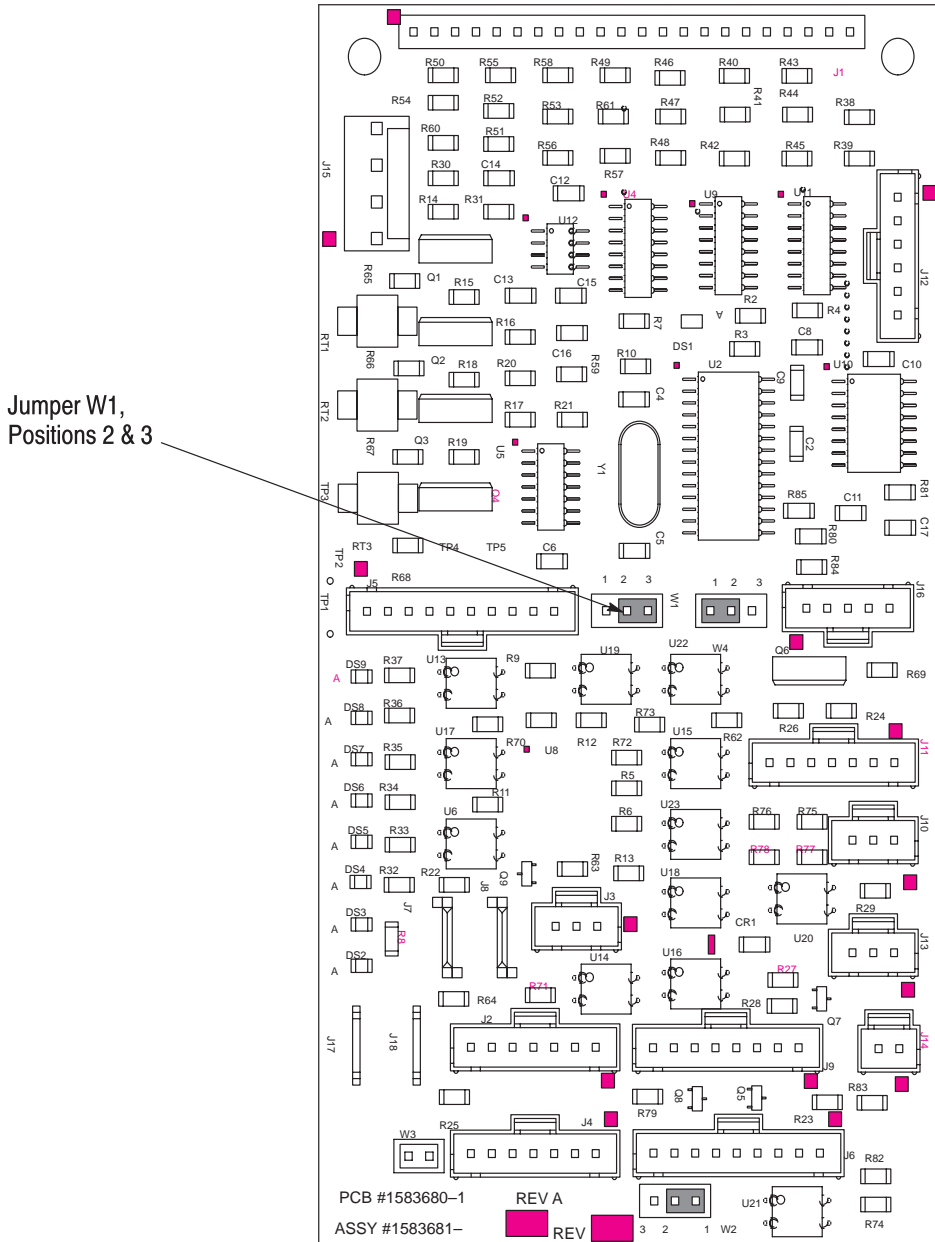

Figure 5
*NOTE THAT the jumper (W1 on Figure 5) connector on the stripping module control board must be in Position 2-3 for operation in the Model "G" Terminator. Position 1-2 is reserved for operation in the Entry Level Terminator. Refer to Figure 5.*